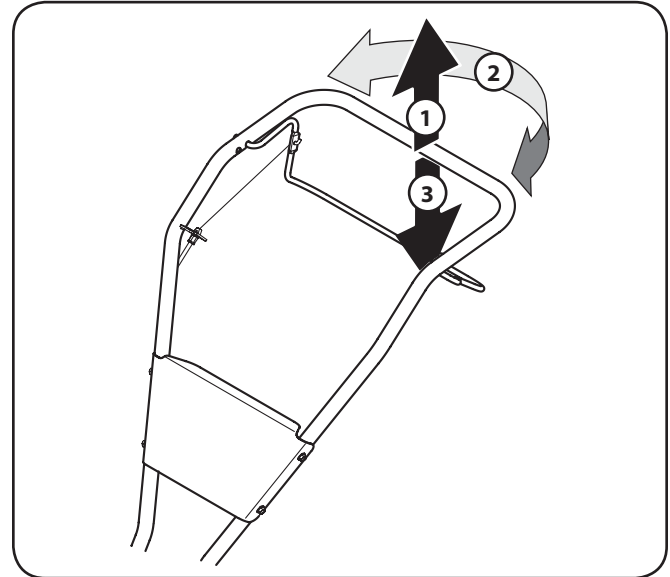

Figure 5-3
1. To begin a turn, lift the handlebars until the tines are out of the ground and the engine and tines are balanced over the wheels. See Fig. 5-3.
2. With the tiller balanced, push sideways on the handlebar to steer in the direction of the turn. See Fig. 5-3.
3. After turning, slowly lower the tines into the soil to resume tilling. See Fig. 5-3.